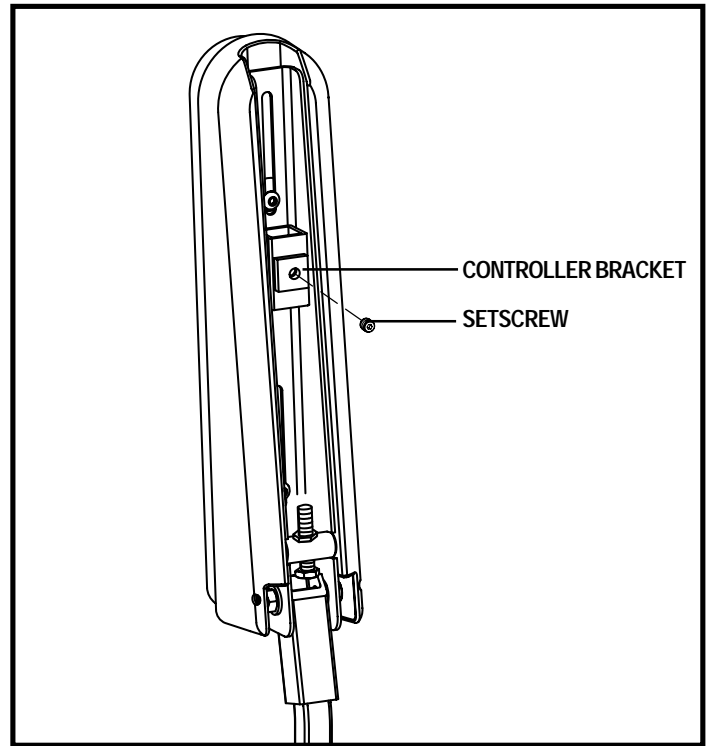

Figure 19. Underside of Armrest
2. Loosen the setscrew on the controller bracket. See figure 19.